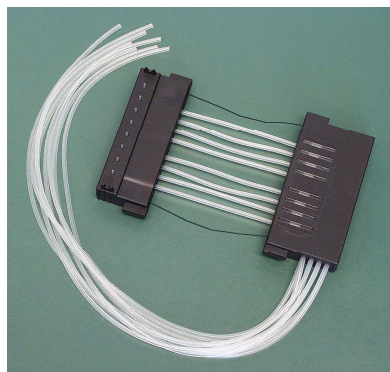

Figure 5-54. Dispensing cassette pre-calibrated
18. When the tube fasteners have all been adjusted roughly to the middle of the sight strip, close the calibration screw cover (Figure 5-54).